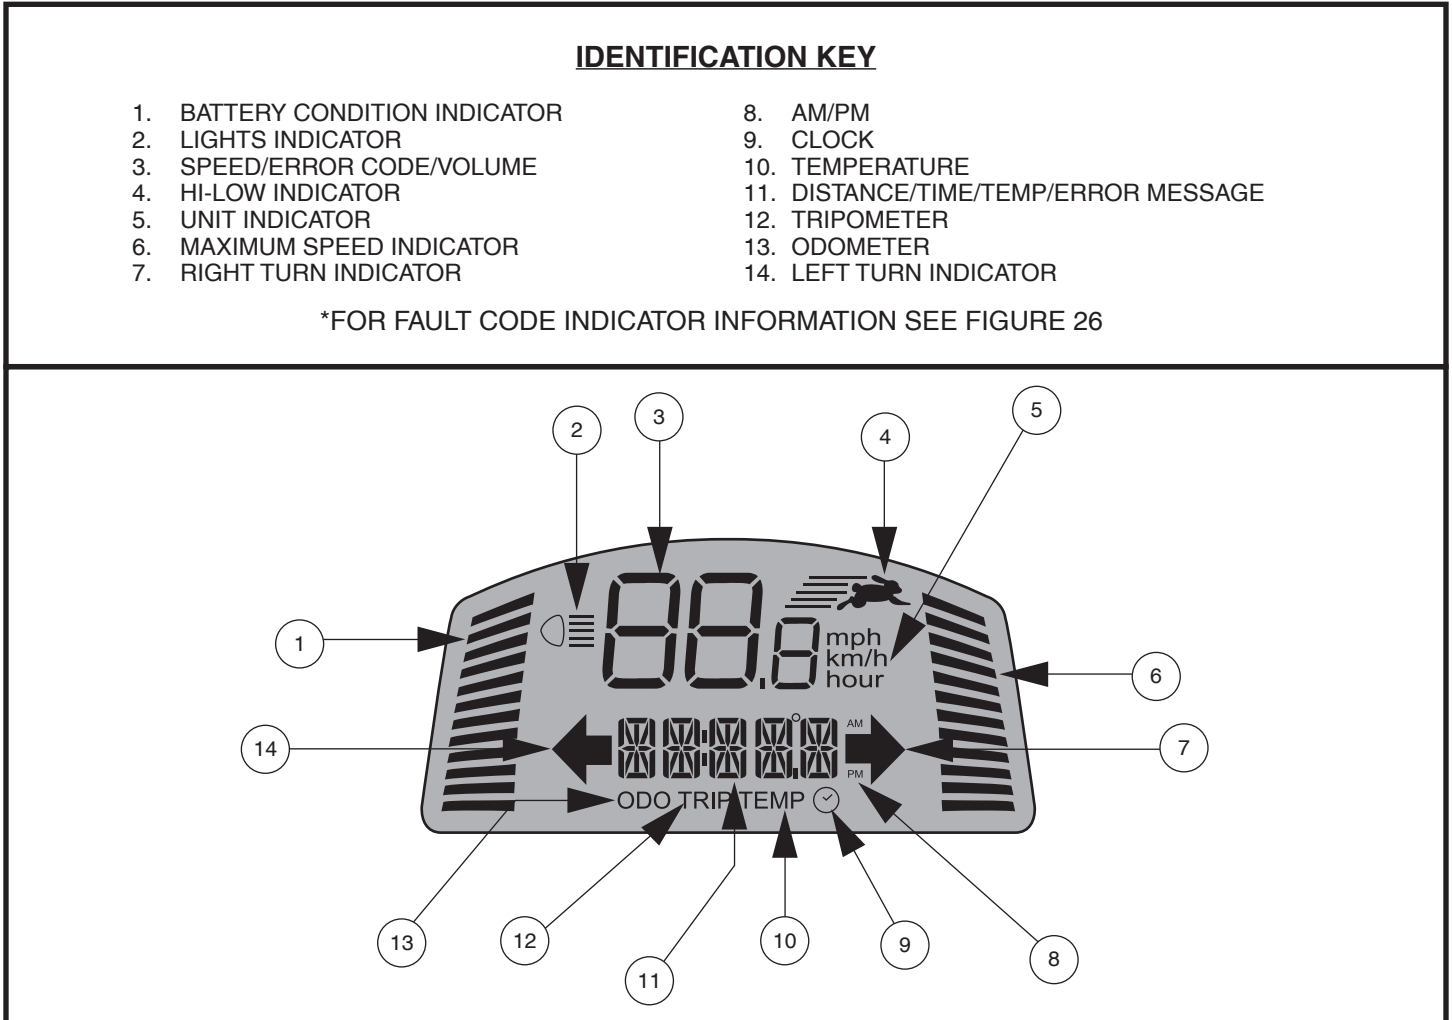

Figure 5. LCD Screen - Console Style B
- Press the High-Low button once to set the speed adjustment to High. The High-Low indicator will display on the LCD screen. **See figure 5.** Using this setting in conjunction with the speed adjustment buttons will allow the scooter to achieve speeds up to the maximum preprogrammed speed for the scooter.
These adjustment buttons enable you to pre-select and limit your scooter's speed. This is indicated by the maximum speed indicator on the LCD screen. **See figure 5.**
*NOTE: The more bars shown on the maximum speed indicator, the faster your pre-selected maximum speed will be. See figure 5.*
The LCD control panel offers easily intuited feedback information via the LCD screen. See figure 5. The LCD screen may also be used during the set-up (activation) of the various control panel settings. See chart 1.